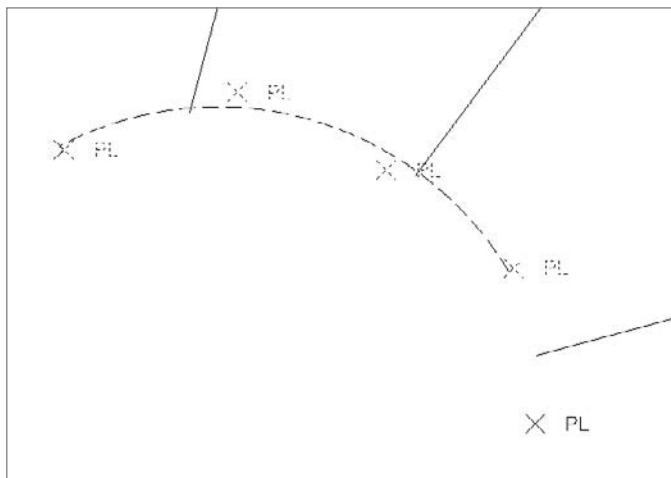

Figure A.1
6. At the `Select point objects or [Numbers/Groups/Undo]:` prompt, continue selecting the remaining PL points from left to right. As you select the points, a dashed, red preview arc will appear as shown in Figure A.1. After all of the points are selected, press ↵. The Regression Data Panorama will appear.